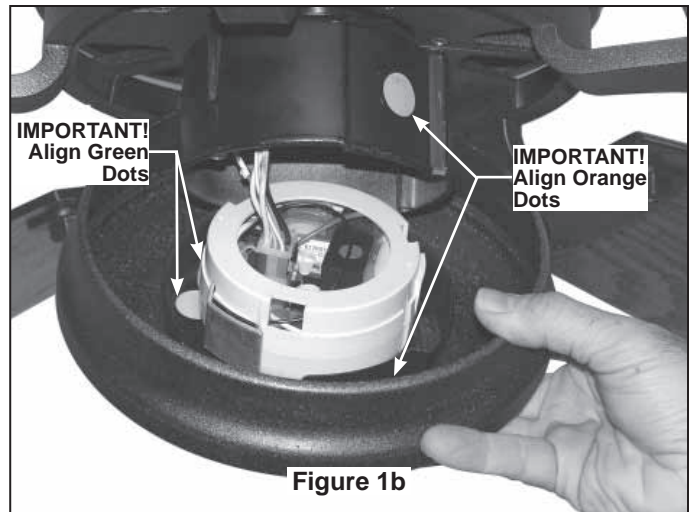

Figure 1b
- **Receiver:** Slide code switches to the same positions as set on your transmitter (Figure 1b).